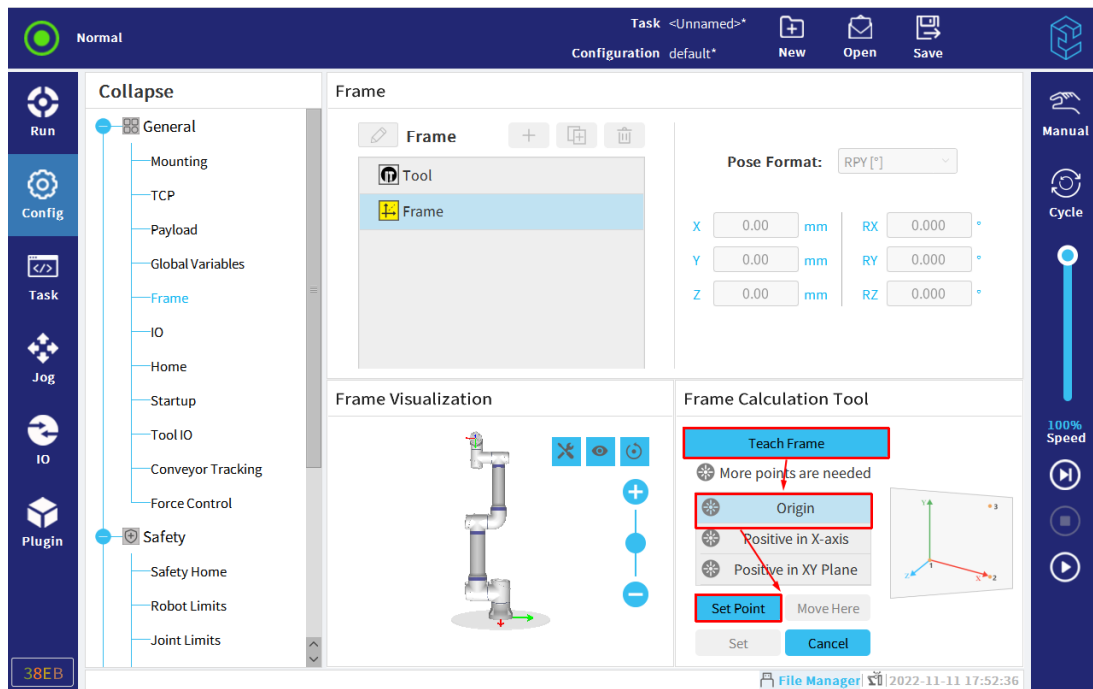

Figure 3-46 : Set point
2. Click "Teach Frame > Origin > Set Point", as shown in **Figure 3-46** .